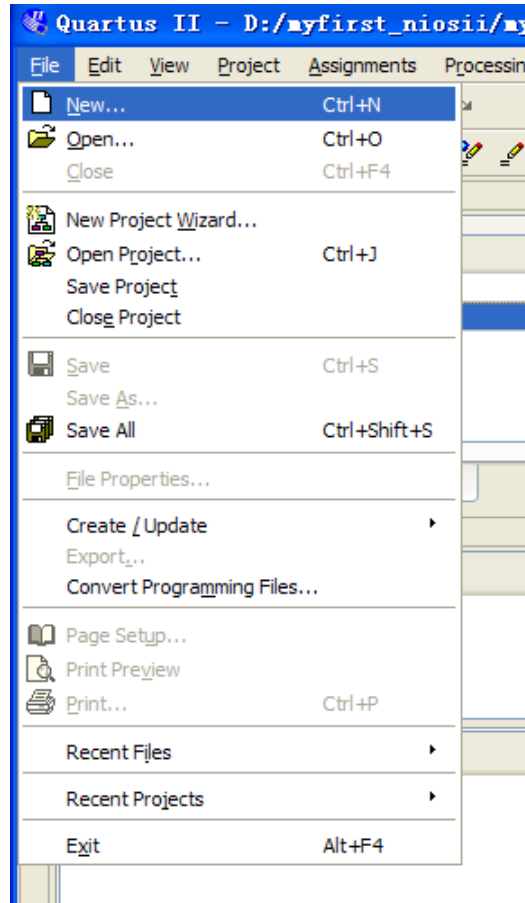
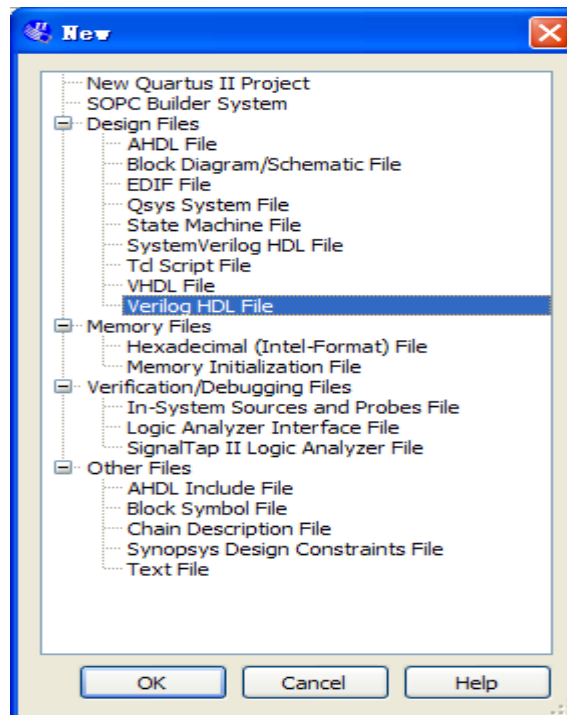

Figure 7-40 New Verilog file
Figure 7-41 New Verilog File
25. Choose **File > New** to open new files wizard. See **Figure 7-40** and **Figure 7-41**.